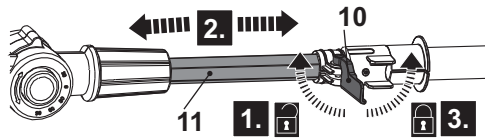

Fig. 24
- Loosen the locking lever (10) (Fig. 24, step 1).
- Adjust to the required length by pulling out or pushing in the pole extension (11) (Fig. 24, step 2).
- Secure the position of pole extension (11) by fastening the locking lever (10) back to its original position (Fig. 24, step 3).